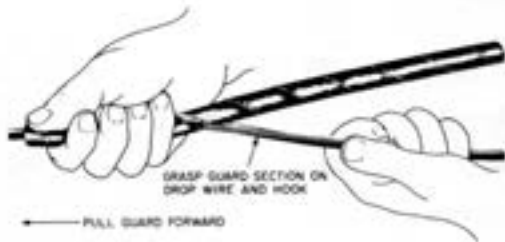

Fig. 2—Placing P Wire Guard Hook Method
4.05 **P Wire** guards can be placed on drop wire by means of a hook tool fashioned from the tail wire of a drop wire clamp, or by using a screwdriver as a guide. (See Fig. 1, Fig. 2, and Fig. 3.)
already on the wire and pull guard away from the hook as shown in Fig. 2.